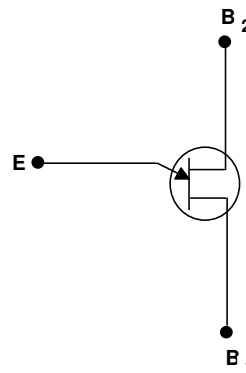

Fig.36.1(b)
**Working:** Make the circuit arrangement as shown in fig. 36.1(b) Normally,  $B_2$  is kept positive w.r.t  $B_1$ . A variable positive voltage is supplied to the emitter through a switch (i) When the emitter circuit is closed through a switch S but the emitter voltage is reduced to zero. This voltage establishes a reverse bias on the pn junction and the emitter current is cut-off.